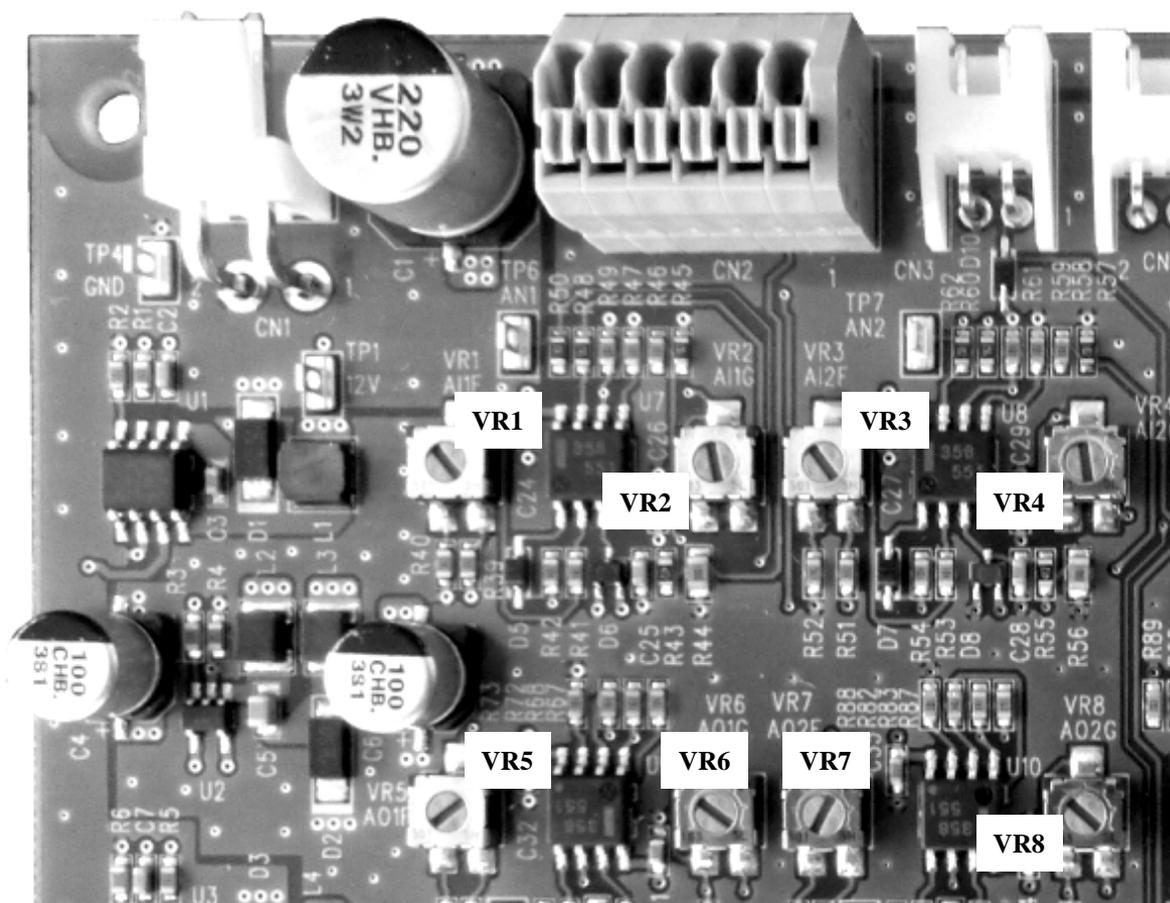

Figure 16
*See “Figure 16”, VR1 to VR8 are the gain / offset controllers adjustable with a screw driver.